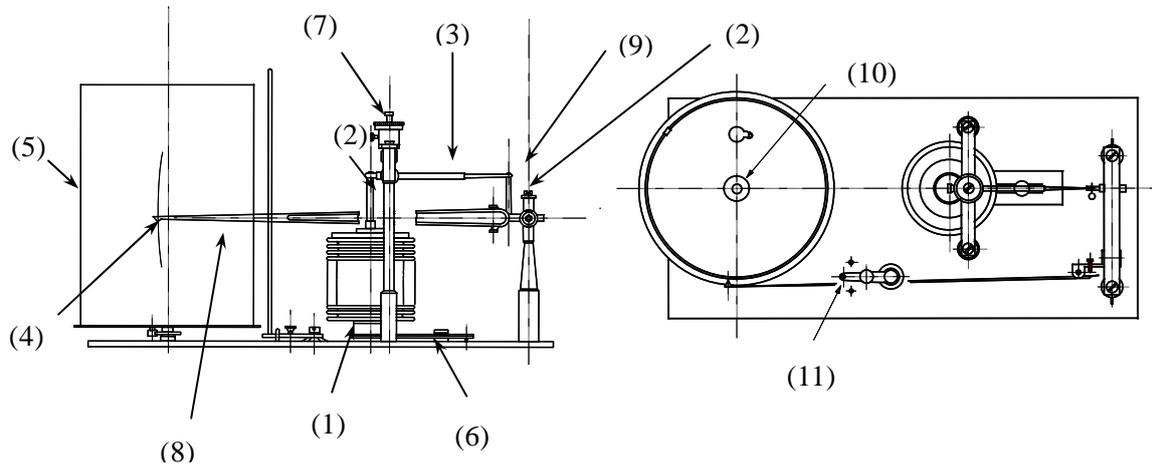

Figure 5.5 Structure of the aneroid barograph
The principle of the aneroid barograph is the same as that of the aneroid barometer, except for using a recording pen instead of the index needle. The structure of an aneroid barograph is shown in Figure 5.5.
Check the aneroid barograph as indicated in Chapter 2: Measurement of temperature, and when there is a difference of ± 0.3 hPa or more between the reading of the aneroid barograph and that of the mercury barometer, turn the indicator adjusting screw (7) to adjust the indicator in Figure 5.5.
Repair aneroid barographs according to the repair instructions in Chapter 2: Measurement of temperature. When irregular movements of the pen arm are noticeable, repair it as follows (See Figure 5.5).